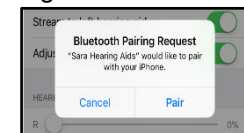

Figure 42
6. A pairing request window will appear for each device. Select **Pair** (Figure 42).